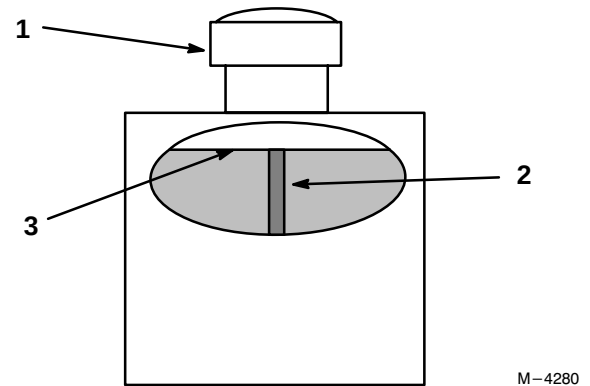

Figure 36
2. Clean area around filler neck of hydraulic tank (Fig. 36).
3. Remove cap from filler neck. Look inside to check if there is fluid in the reservoir (Fig. 36).
Note: Fluid level should be to the top of the baffle when the fluid is warm (Fig. 36).